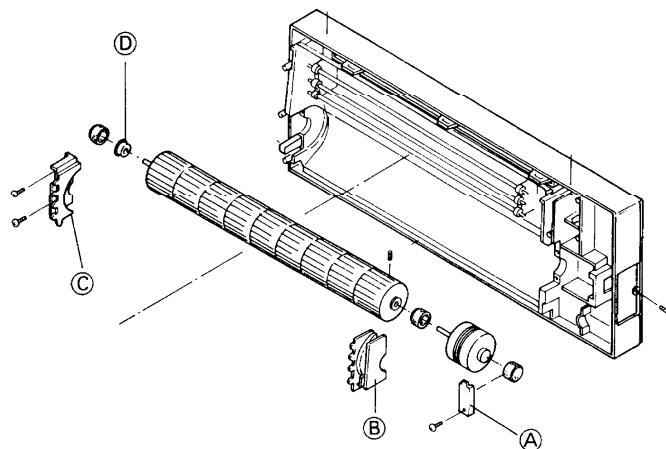

Fig. 4
- 1) As shown in Fig. 4 loosen the screws of the plastic mounting plates (A), (B) and (C) which secure the fan, then remove the fan and fan motor.
- 3) Withdraw the Bearing Ass'y (D) retaining the left side of the fan, by hand, then pull the fan to the left and withdraw it from the motor shaft.